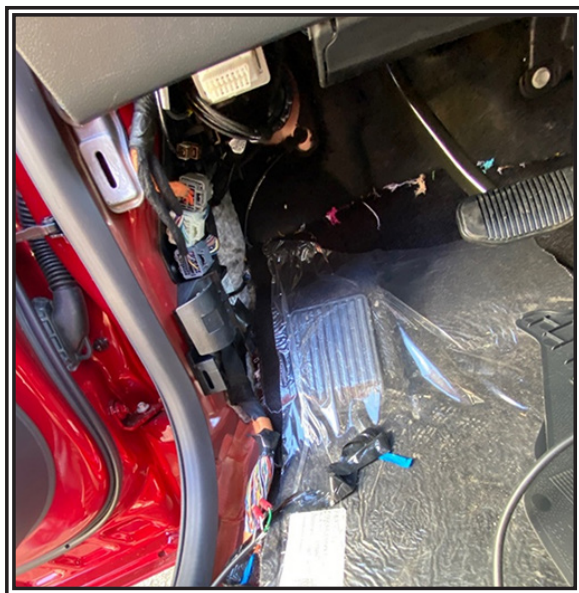

Figure 1
1. Remove Driver side kick panel. See FIGURE 1.